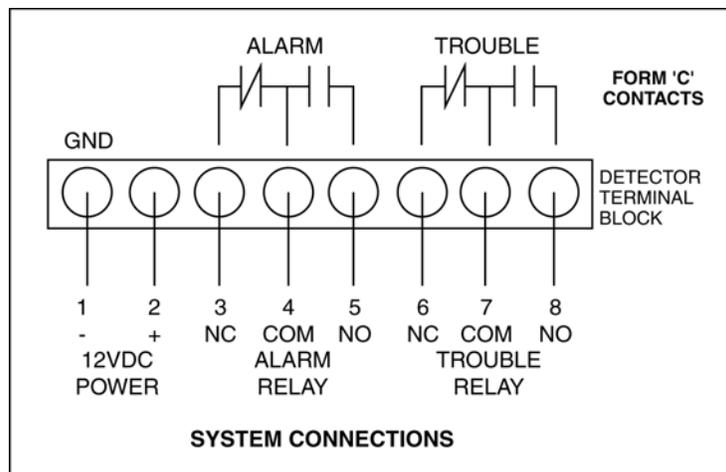

Figure 5
- 9.5.2 Pull wires through hole at center of alarm base and connect to the internal terminal block as shown on the following wiring diagrams. (see figure 5)